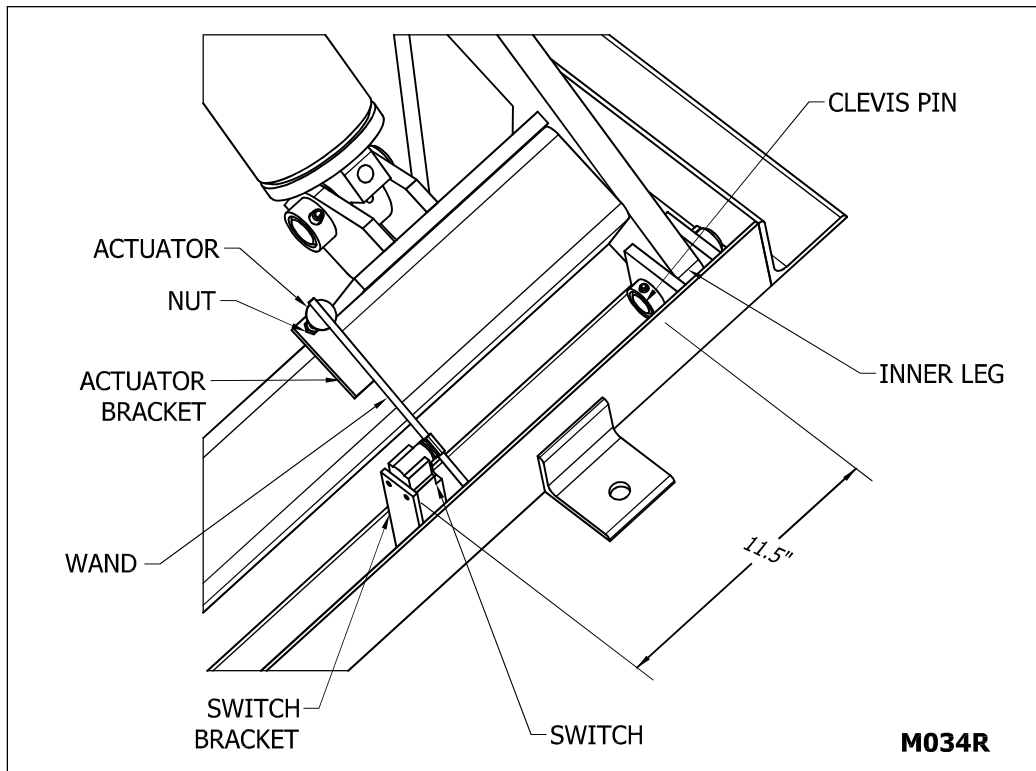

Figure 11: Limit Switch Position
2. The switch must be located in such a way that it does not interfere with the full range of motion of the equipment. If this is not done, damage to the switch due to the interference may occur. The switch must be clear of hydraulic hoses or hydraulic manifold block. In addition, the switch must not be located too close to the inside of the leg such that replacement of the fixed clevis pin is difficult. Leave 11.5 inches between the end of the clevis pin and the bracket (see "Figure 11: Limit Switch Position" on page 19).